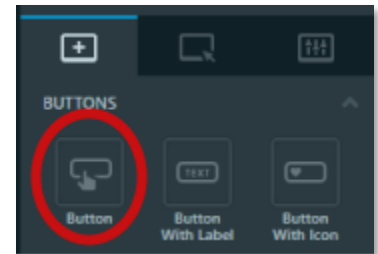

Figure 40
2. For each menu item in the Main Menu, a dummy button was created by dragging a touchscreen button from the widget panel (see Figure 40) to an area of the canvas that is outside the active screen.